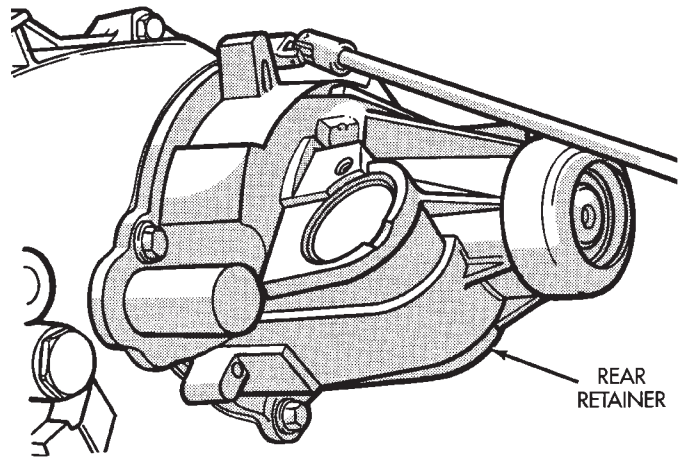

Fig. 3 Removing Rear Retainer Bolts
(4) Remove rear retainer bolts (Fig. 3).